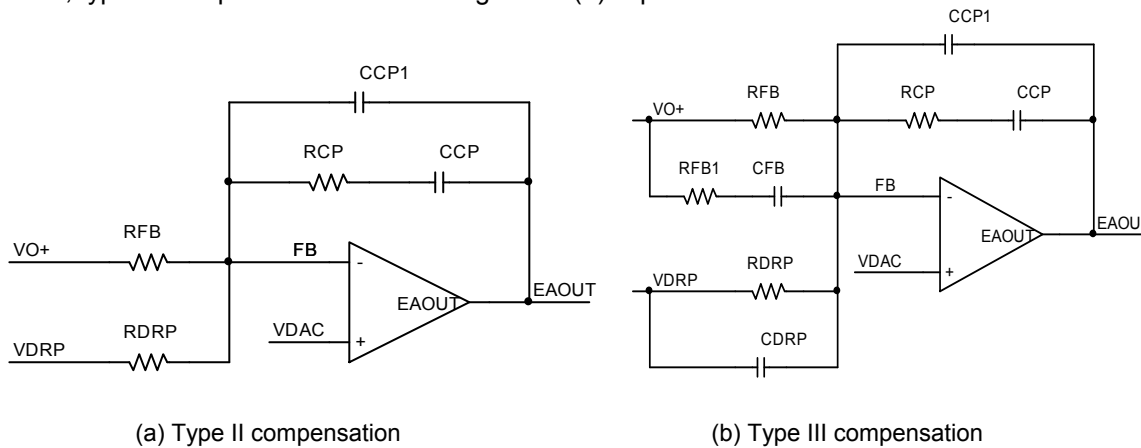

Figure 20: Voltage Loop Compensation Networks
Resistors RFB and RDRP are chosen according to Equations (15) and (16), and the selection of compensation type depends on the capacitors used. For the applications using Electrolytic, Polymer or AL-Polymer capacitors, type II compensation shown in Figure 20 (a) is usually enough. While for the applications with only ceramic capacitors, type III compensation shown in Figure 20 (b) is preferred.